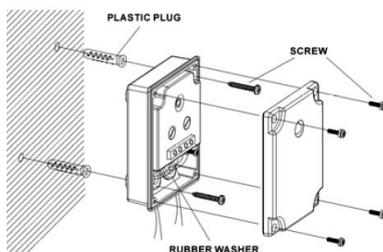

Fig 1
- Ensuring not to infringe with any gas/water pipes or electrical cables, drill the 4 holes and secure the sensor base using the fixings provided (see Fig 1)